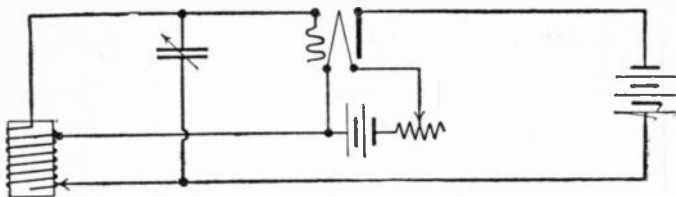

Fig. 19.—The Secondary Circuit of an Undamped Wave Receiver.
**B. Tapped secondary coupling.** With a circuit as in Fig. 19 no adjustment is needed, though the strength of the oscillations can be varied by changing the taps which